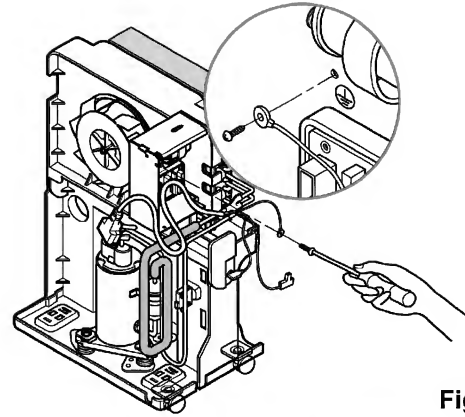

Figure 15
1. After opening the control box, remove the screw that holds the ground wire. (See Figure 15)